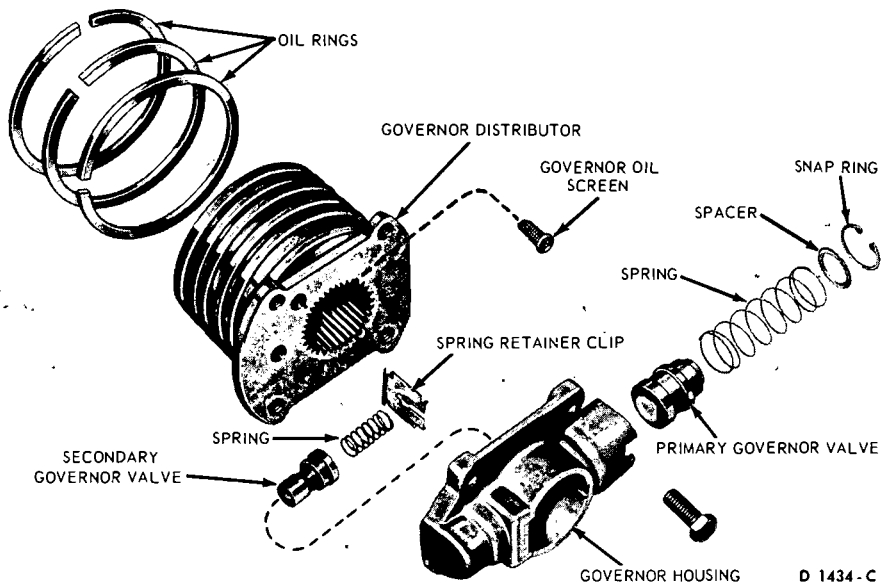

FIG. 99—Governor and Oil Distributor
1. Remove the rings from the governor oil distributor (Fig. 99).